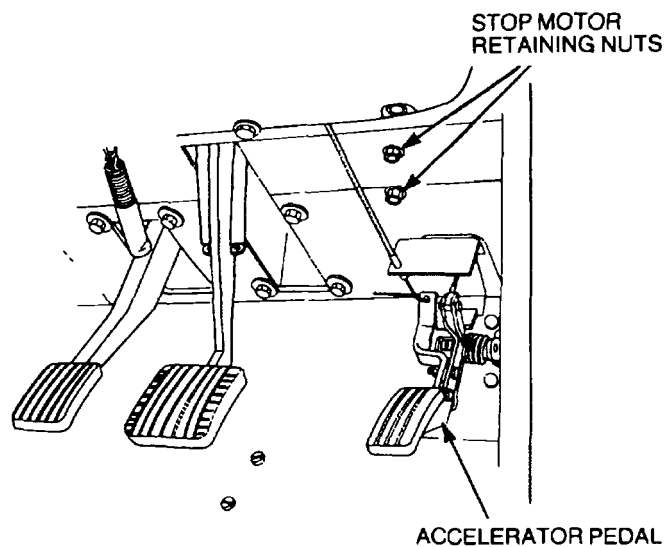

Figure 36 Stop Motor Removal
- e. Remove the locknuts securing the stop motor to the firewall (Figure 36).